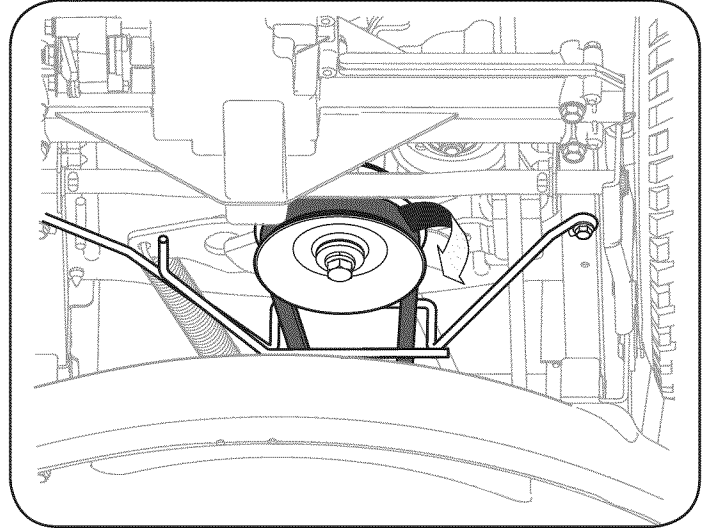

Figure 33
3. Remove the belt from around the tractor's PTO pulley. See Figure 33.
3. Remove the deck belt from around the unit's PTO drive pulley as shown in Figure 33. Simply roll one side of the belt off of the pulley and then work it off the pulley by continuing around the pulley until the belt is off of the pulley.
4. Pull the belt towards the front of the unit, pulling it through and out of the belt keeper bracket, shown in Figure 33.
8. Feed the deck belt through the belt keeper bracket and work it around and onto the PTO drive pulley as shown in Figure 33.